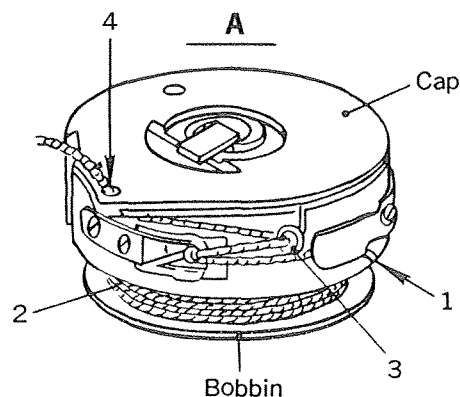
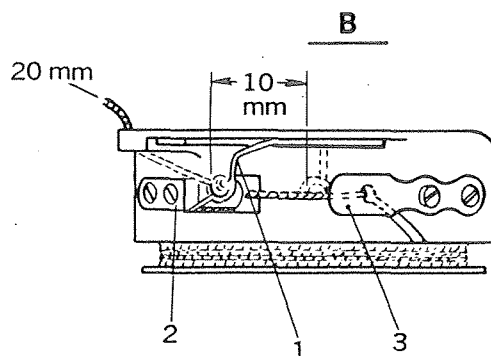

FIG. 43A
FIG. 43B
Fig. 43A shows the method of threading of the bobbin case of model 328RB-1. Fig. 43B shows the position of thread take-up spring (1) ready to pick up any excess of thread for the prevention of loops. Also note that the dotted outline of the thread take-up spring (1A) which shows same in a rest position prior to pulling back excess thread. As can be seen from this figure, spring (1) travels a distance to where its eye coincides with the thread guide hole in retainer (2).